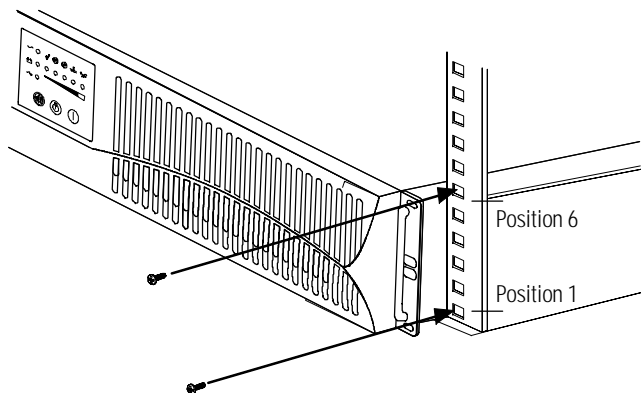

Figure 4. Securing the Front Panel
8. After installing the UPS chassis, secure the front of the UPS to the rack using the front panel screws (see Figure 4).